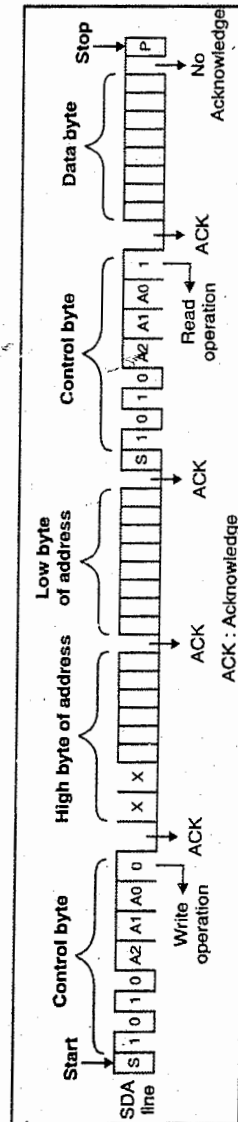

Fig. 14.12.9 : Random read operation
Fig. 14.12.9 shows the random read operation. This operation allows the master device to access any memory location randomly.
- The word address should be set for doing a random read operation. The word address is set by byte write operation as shown in Fig. 14.12.9.